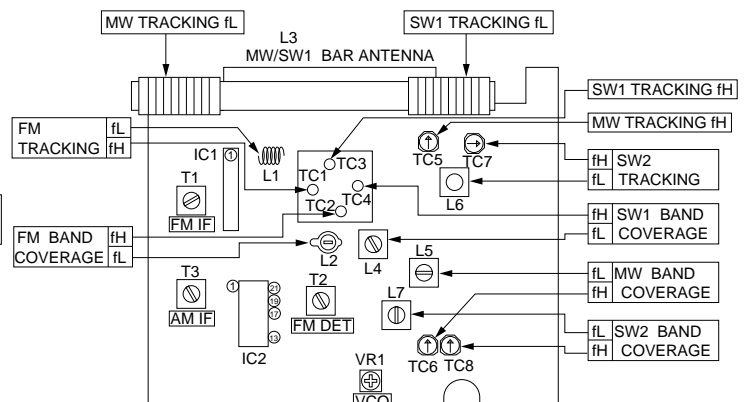

Figure 9-2 ADJUSTMENT POINTS
3. Set the dial pointer as shown in Figure 9-2, and mount the tuner PWB.